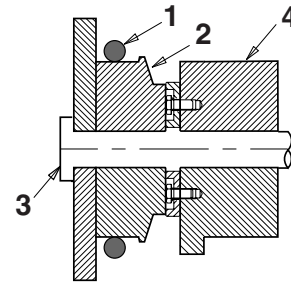

Figure 5
2. Roll the old O-ring (1, Figure 5) onto the boss (2) around the bucket pin (3). Remove the bucket pin and move the arm or bucket link (4) out of the way.
4. Realign the arm or link with the bucket pin hole and insert the bucket pin (3, Figure 5).